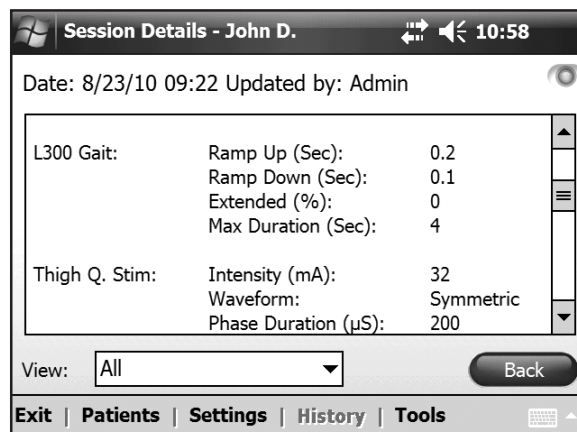

Figure 7-31: Session Details window.
4. The Session Details window will open, showing the parameters saved for that session. See Figure 7-31.